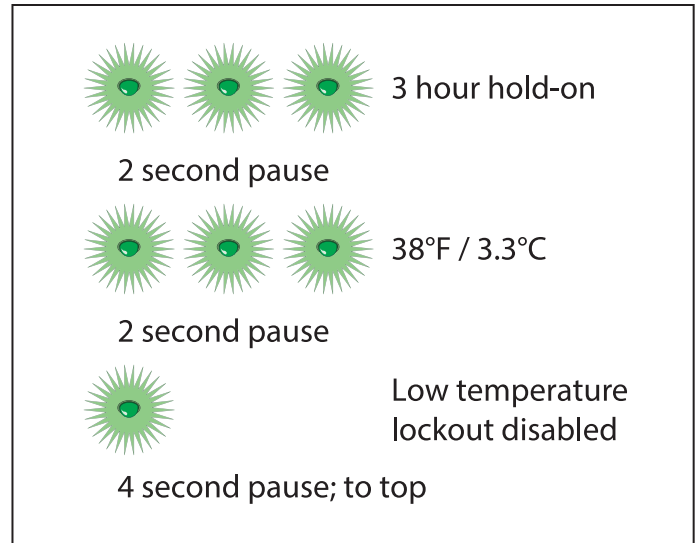

FIGURE 7. LED response, factory configuration
The four (4) second gap helps the user identify Field 1, the starting point of the sequence, even after the sequences of pulses have repeated several times. The LCD-8's factory-set configuration is represented in Figure 7, above.